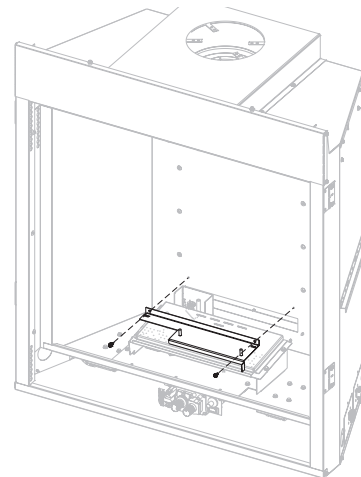

Figure 11
8. Remove log support by unscrewing two screws securing the metal plate to the log support. Retain log support and screws for reassembly. See Figure 11.
19. Reinstall the log support and secure it with metal plate and two screws removed in step 8. **See Figure 11.**